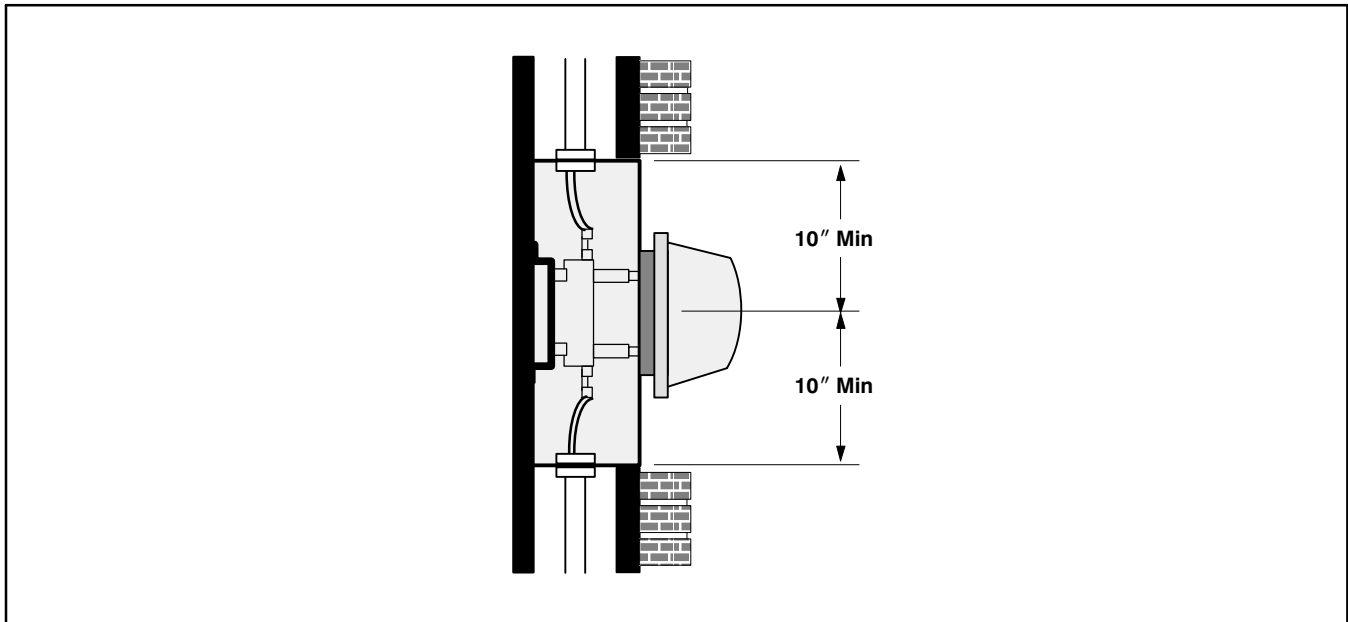

Figure 26 Recessed meter installation clearances
- If a recessed meter bases/socket is installed, a 10-inch clearance is required from the meter to the closest portion of the wall (see *Figure 26*).